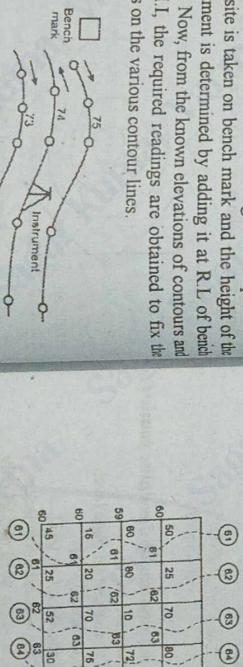

Fig. 4. Contouring by Squares
2. By squares (Fig. 4) : This method is suitable when the area is small and the ground is almost uniform. The whole area is divided into series of squares and their corners are marked with pegs.